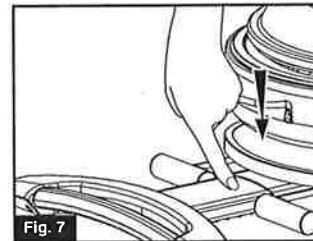

Fig. 7
- Press down button on towing handle and continue to push handle in until it locks in first hole on bracket. (Fig. 7)